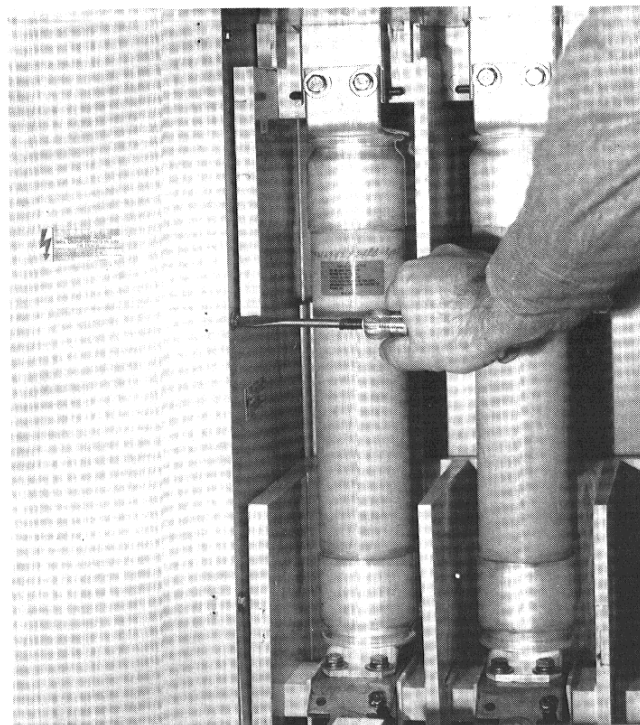

Figure 34. Lower incoming line barrier.
After the equipment has been set in place where it is to be permanently connected, some internal disassembly is required to make the necessary external power-cable and control-wire connections. Disassembly should be done in a definite sequence by following Figs. 23 through Fig. 34, and as described below:
9. Remove the front cover of the lower incoming line barrier, Fig. 34, (if incoming cables are to be routed from the floor) or remove the top incoming line barrier (if cables are to be routed into the enclosure from the top).